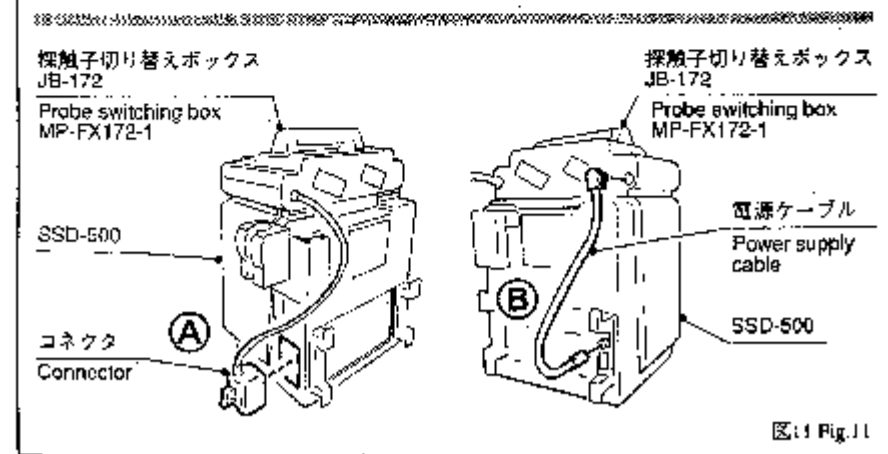

図11 Fig.11
- (2) Connect the connector of the probe switching box to SSD-500. (㉔ in Fig.11)
- (3) Connect 1 end of the power supply cable to the probe switching box and the other to SSD-500. (㉕ in Fig.11)